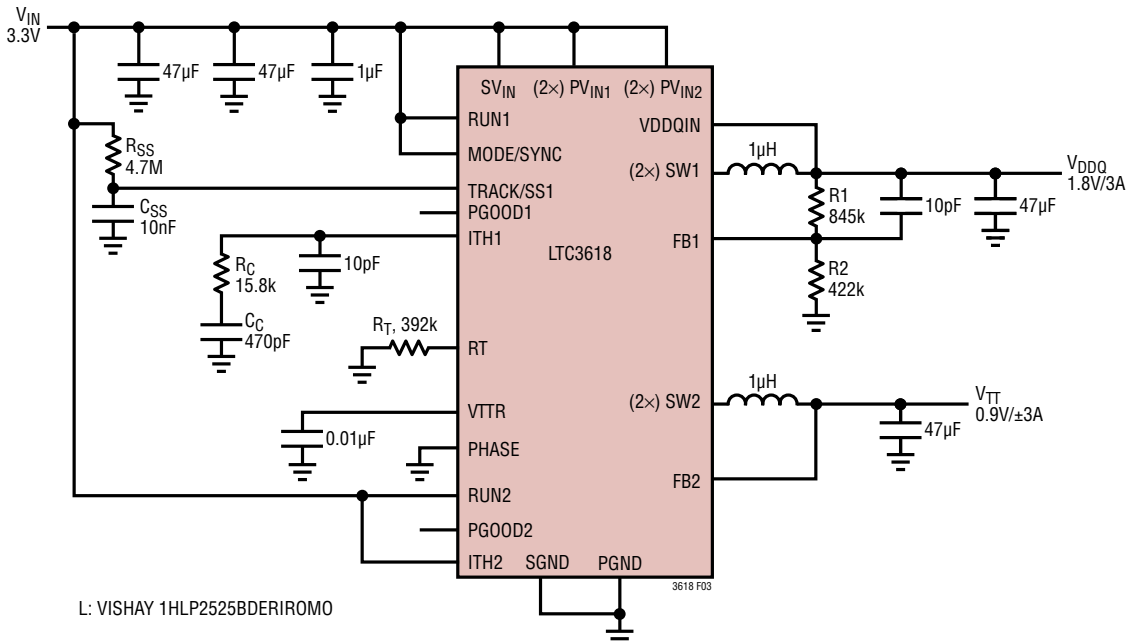

Figure 3. Soft-Start and Compensation for  $V_{\text{DDQ}}$  Externally Programmed, Compensation for  $V_{\text{TT}}$  Internally Programmed
$T_A = 25^\circ\text{C}$ ,  $V_{IN} = 3.3\text{V}$ ,  $f = 1\text{MHz}$ , Figure 3 Circuit,
The resistive divider allows pin  $V_{FB1}$  to sense a fraction of the output voltage as shown in Figure 3.
The ITH1 external components (15.8k and 470pF) shown in Figure 3 will provide an adequate compensation as well as a starting point for most applications. The values can be modified slightly to optimize transient response once the final PCB layout is complete and the particular output capacitor type and value have been determined. The output capacitors need to be selected because the various types and values determine the loop gain and phase. The gain of the loop will be increased by increasing  $R_C$  and the bandwidth of the loop will be increased by decreasing  $C_C$ . If  $R_C$  is increased by the same factor that  $C_C$  is decreased, the zero frequency will be kept the same, thereby keeping the phase shift the same in the most critical frequency range of the feedback loop. The output voltage settling behavior is related to the stability of the closed-loop system. The external compensation, forced continuous operation circuit in the Typical Applications section uses faster compensation to improve load step response.
After enabling the LTC3618 by bringing the RUNx pins above the threshold, the enabled channels enter a soft-start-up state. The type of soft-start behavior of  $V_{DDQ}$  is set by the TRACK/SS1 pin. The soft-start cycle begins with an initial discharge pulse pulling down the TRACK/SS1 pin to SGND and discharging the external capacitor  $C_{SS}$  (see Figure 3).
2. If a longer soft-start period is desired, it can be set externally with a resistor and capacitor on the TRACK/SS1 pin as shown in Figure 3. The voltage applied at the TRACK/SS1 pin sets the value of the internal reference at  $V_{FB1}$  until TRACK/SS1 is pulled above 0.6V. The external soft-start duration can be calculated by using the following equation: